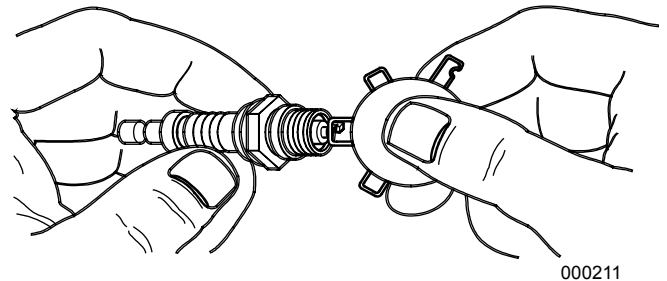

Figure 4-16. Spark Plug
4. See Figure 4-16. Measure spark plug clearance with a feeler gauge. The clearance should be .019-.027 in (0.5-0.7 mm). If adjustment is necessary, bend the side electrode carefully.